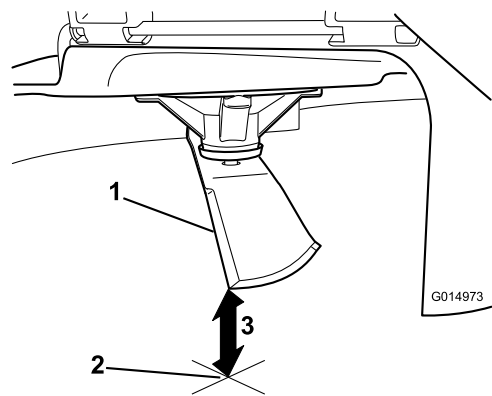

Figure 64
3. Measure from the tip of the blade to the flat surface (Figure 64).